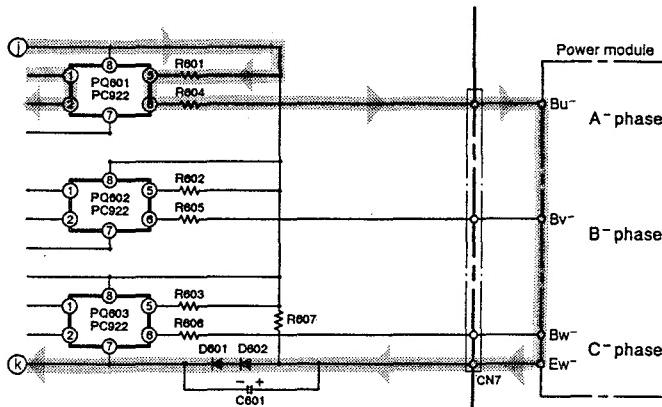

Fig. 7-4
Fig. 7-4 shows the lower arm drive circuit.
- When pin ⑤ of the micro computer goes "Lo" → "Hi", a photocoupler between PQ601 pins ① and ② turns on and current flows to terminal ① → R601 → PQ601 → R604 → power module's Bu- terminals → Ew- terminals → D602 → D601 → terminal ⑤ and drives the lower arm transistors. (Fig. 7-4)
- The signals which turn on or off according to the position detection signals are output from pins ③ ④ ⑤ of the micro computer in the same way as in the upper arm drive circuit and are input to pins ① of photocouplers PQ601 and PQ602 via driver IC1.